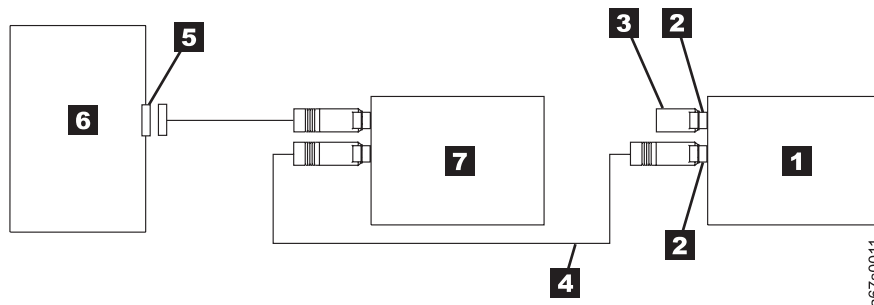

Figure 2-2. Example of connecting multiple SCSI devices to the server. The view is from the top.
- If the tape drive is one of multiple devices on the SCSI Bus, connect the SCSI bus cable to the next device on the bus, and move the terminator to the last device on the bus (see Figure 2-2). For a drive with an LVD SCSI interface, use a cable with a total length of 12 m (39 ft) or less.